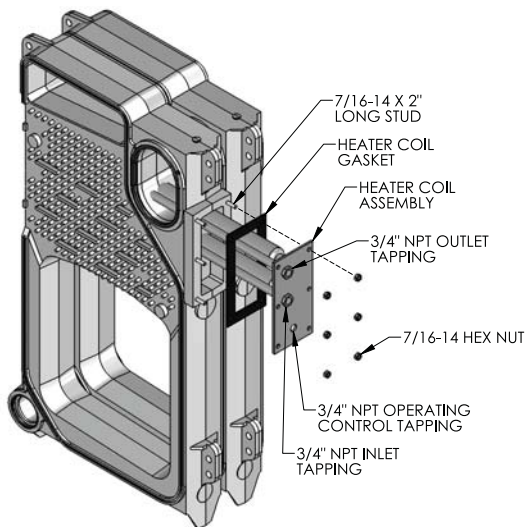

Figure 3.9: Tankless Heater Coil Installation
- Install 7/16" x 1 1/2" studs in the screw seats around the heater opening as shown in Figure 3.9.